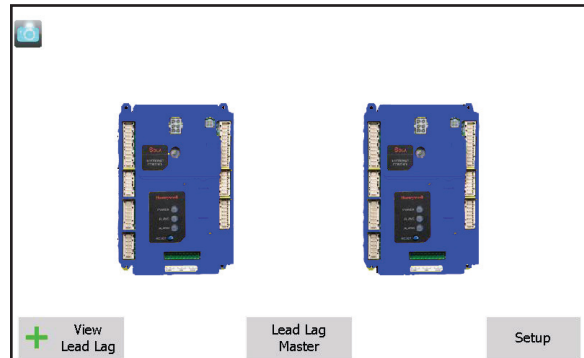

Fig. 107 – 'home' screen
4. Select Date and Time. Figure 107 shows the setup screen.